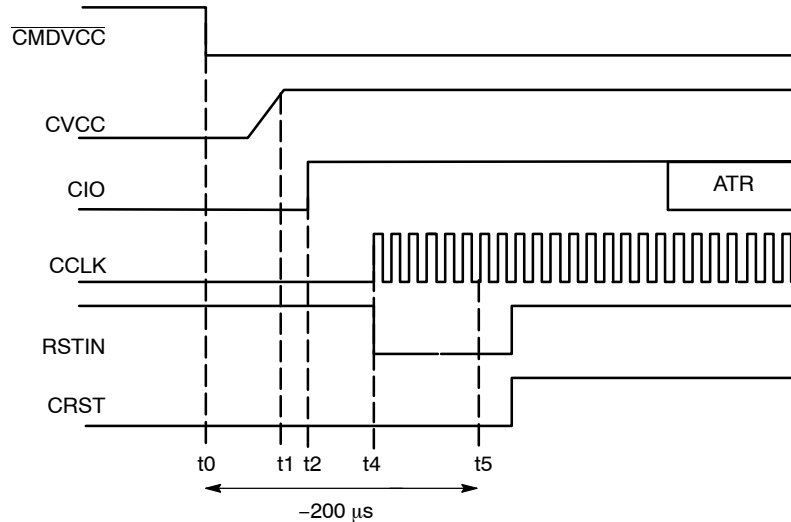

Figure 4. Activation Sequence – RSTIN mode (RSTIN Starting High)
The clock can also be applied to the card using a RSTIN mode allowing controlling the clock starting by setting RSTIN Low (Figure 4). Before running the activation sequence, that is before setting Low \overline{CMDVCC} RSTIN is set High. The following sequence is applied:
- Between t_2 (Figure 4) and $t_5 = 200\ \mu\text{s}$, RSTIN is reset to LOW and CCLK will start precisely at this moment allowing a precise count of clock cycles before toggling CRST Low to High for ATR (Answer To Reset) request.